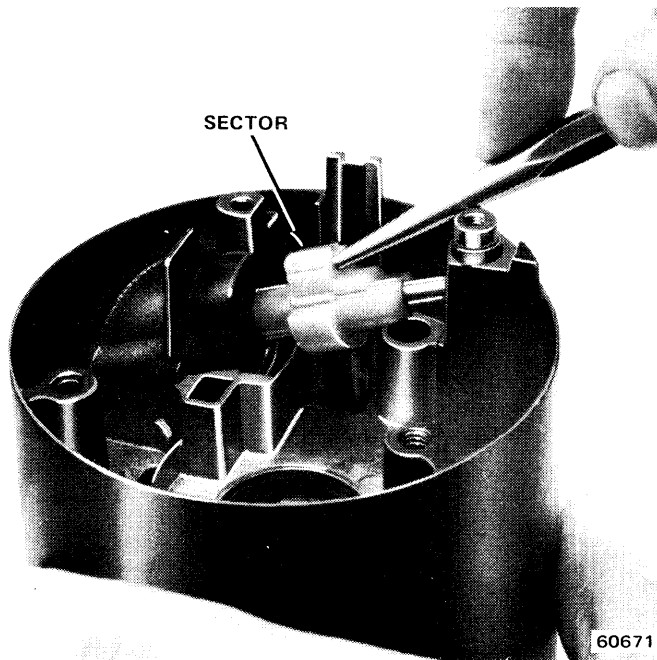

Fig. 11-14 Removing Sector
(26) Remove sector through lock cylinder hole in housing. Push on block tooth of sector with blunt punch to remove (fig. 11-14).